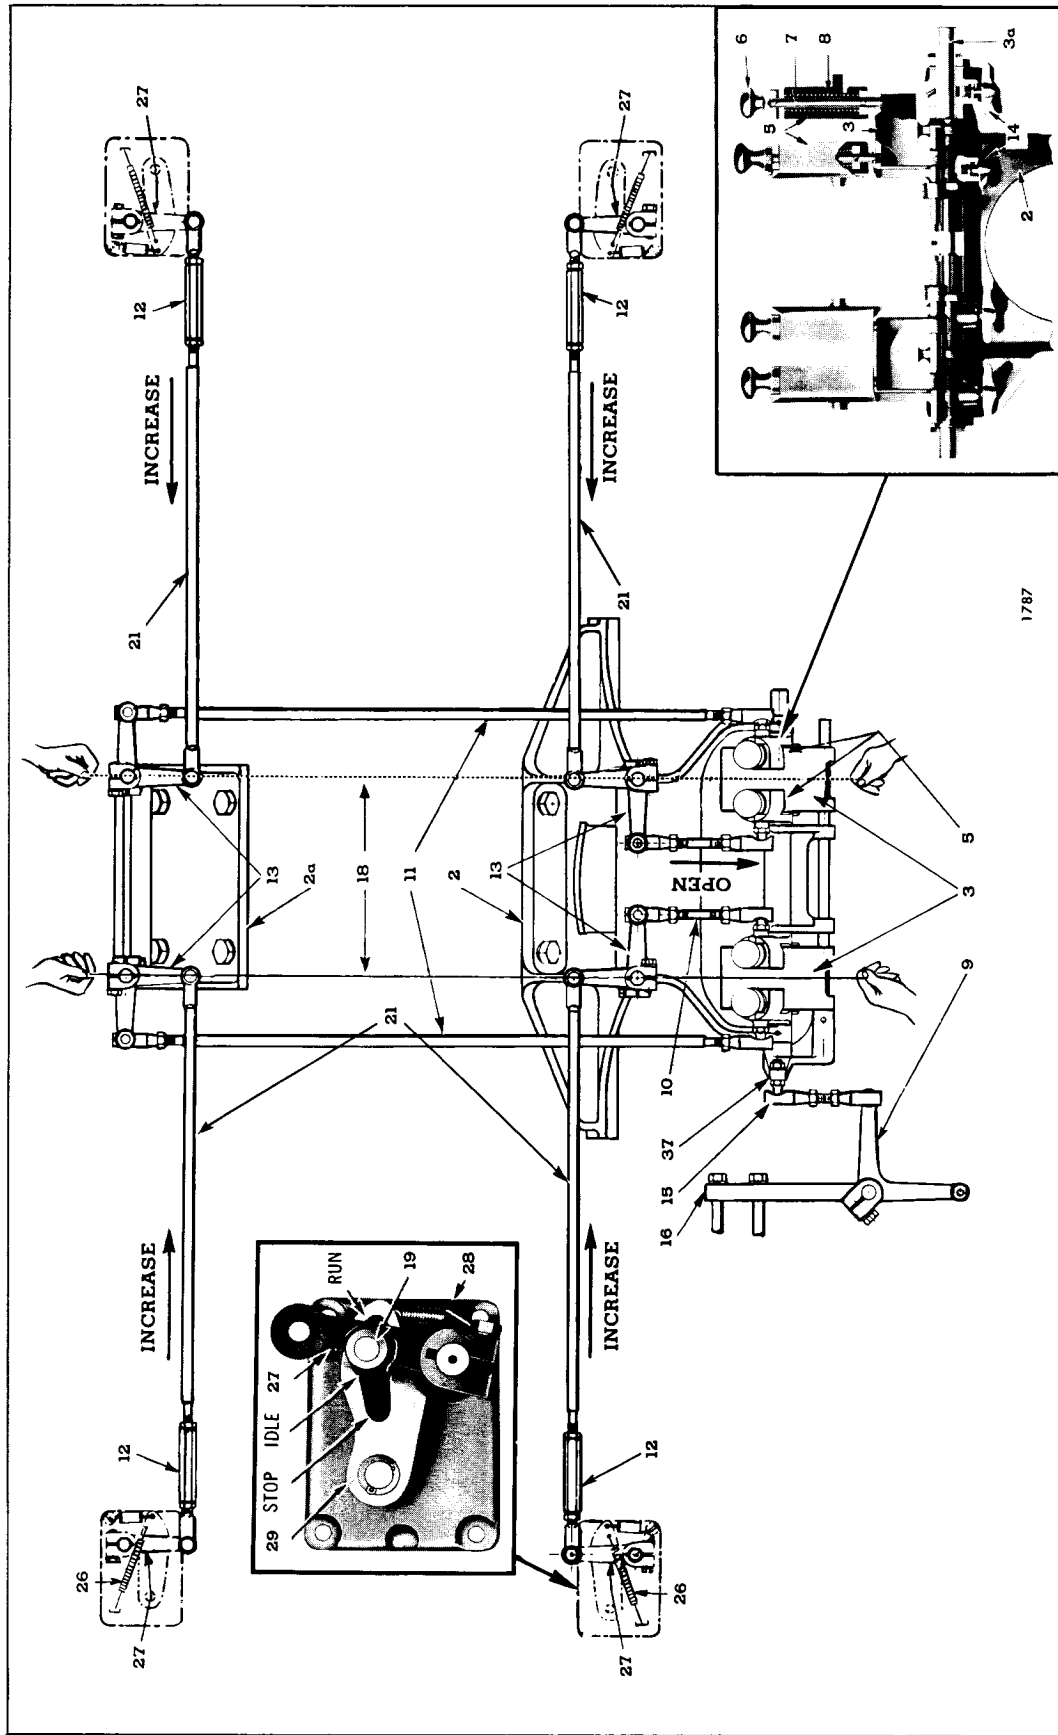
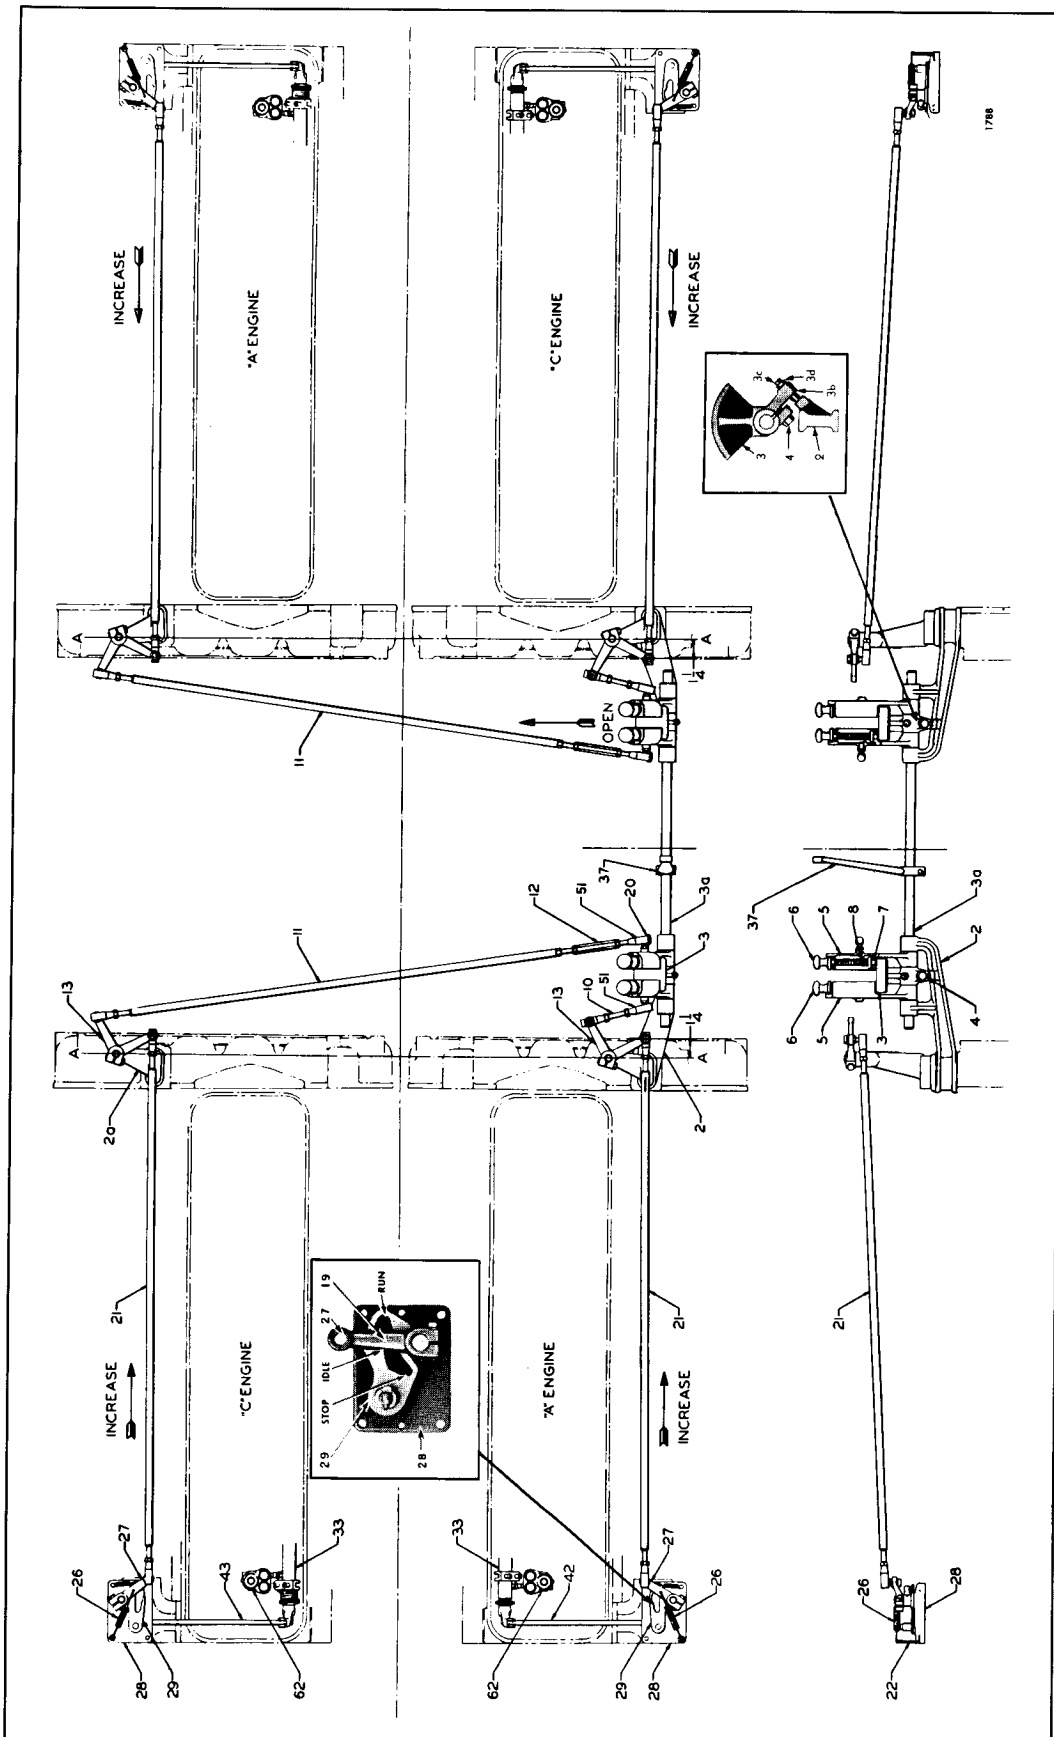

Fig. 10 - Type "A" Throttle Control Adjustment Diagram for Quad Industrial Units Using Limiting Speed Mechanical Governors
Fig. 11 - Type "B" Throttle Control Adjustment Diagram for Twin or Quad Industrial Units Using Limiting Speed Mechanical Governors
Two types of throttle arrangements will be found on quad industrial units using limiting speed mechanical governors to control the engine speeds; the initial type, Fig. 10, and the later type, Fig. 11. The initial type in this adjustment procedure will be known as type "A" and the later type used will be called type "B".
1. With engines stopped, refer to Fig. 10, remove any bind or excess play from clevises and pins and ball joints. If ball joints need adjusting, remove cotter pins from the various joints and turn the ball joint nut down until it bottoms. Then, back off on nut to the nearest position where slot in nut aligns with holes in end of ball joint. Replace and spread cotter pin. Throttle adjustments cannot be made satisfactorily with loose joints or bind in the mechanism.
2. Engage the throttle lever pins (7) of each individual throttle lever (5) with the quadrants (3).
3. Move the quadrant control lever (37) to such position that throttle control levers (5) set vertically; then check the geometry of the linkage as follows: Set the outer arms of the four bellcranks (13) on brackets (2) and (2a) parallel with and the inner arms crosswise of the engine center line. A straight edge or line (18) from brackets (2) and (2a), as shown in diagram, Fig. 10, will aid in making this check.
1. With engines stopped, refer to Fig. 11 and remove any bind or excess play from clevises and pins and ball joints. If ball joints need adjusting, remove cotter pins (20) from the various joints (51) and turn nut down until it bottoms. Then back off on nut to the nearest position where slot in nut aligns with holes in end of ball joint. Replace and spread cotter pin. Throttle adjustments cannot be made satisfactorily with loose joints or bind in the mechanism.
2. Lock throttle levers (5) to quadrants (3) on all engines by means of pins (7).
3. If adjustments are being made on Quad units, and the throttle levers for the forward engines do not align with those for the rear engines (lengthwise of the engines), loosen clamp bolt (4) on one of the quadrants (3) and move quadrant on shaft until all four levers are in alignment lengthwise of the engine. Tighten clamp bolt (4).
4. By means of the master lever (37) push all throttle levers toward FULL OPEN position until the stop bosses (3b) on the back side of quadrants (3) contact the brackets (2).
5. While maintaining the throttle levers in the FULL OPEN position as in "4" above, adjust the throttle to bell crank rods (10) and (11) to such length that the ball joint of the bell crank arms (13), that lie crosswise of the engines, are 1 1/4" off center--away from the front end of the engine--of a line drawn through the center of the bell crank fulcrums, as shown in Fig. 11.